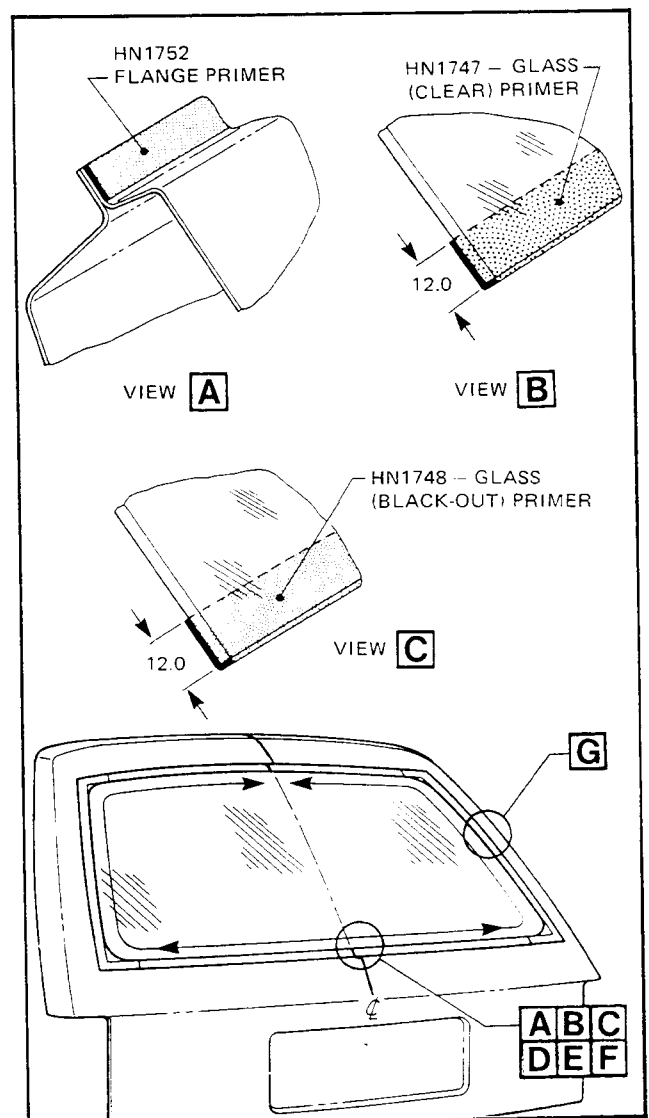

Figure 1A-35
2. Prime the edge of glass and on the glass bonding surface 12 mm from the edge with glass primer - clear (HN1747). This is a wipe on wipe off operations (refer View B, Fig. 1A-35).
3. Prime the edge of glass and on the glass bonding surface 7 mm from the edge with glass primer - black (HN1748) and allow to dry for 15 minutes (refer View C, Fig. 1A-35).
4. Apply an even bead of urethane adhesive (HN1749) 9.0 mm x 7.0 mm to blading flange as shown in View B, Fig. 1A-36, using nozzle cut as shown in View C, Fig. 1A-36).